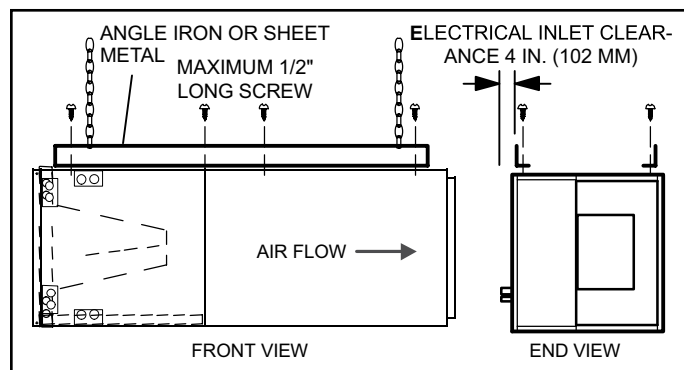

Figure 3. Suspending Horizontal Unit
5. If the unit is suspended, the entire length of the cabinet must be supported. If you use a chain or strap, use a piece of angle iron or sheet metal attached to the unit (either above or below) to support the length of the cabinet. Use securing screws no longer than 1/2 inch to avoid damaging the coil or filter. See Figure 3. Use sheet metal screws to connect the return and supply air plenums as required.
12. If suspending the unit, it must be supported along the entire length of the cabinet. If using chain or strap, use a piece of angle iron or sheet metal attached to the unit (either above or below) so that the full length of the cabinet is supported. Use securing screws no longer than 1/2" to avoid damage to coil or filter, as illustrated in Figure 3. Connect return and supply air plenums as required using sheet metal screws.